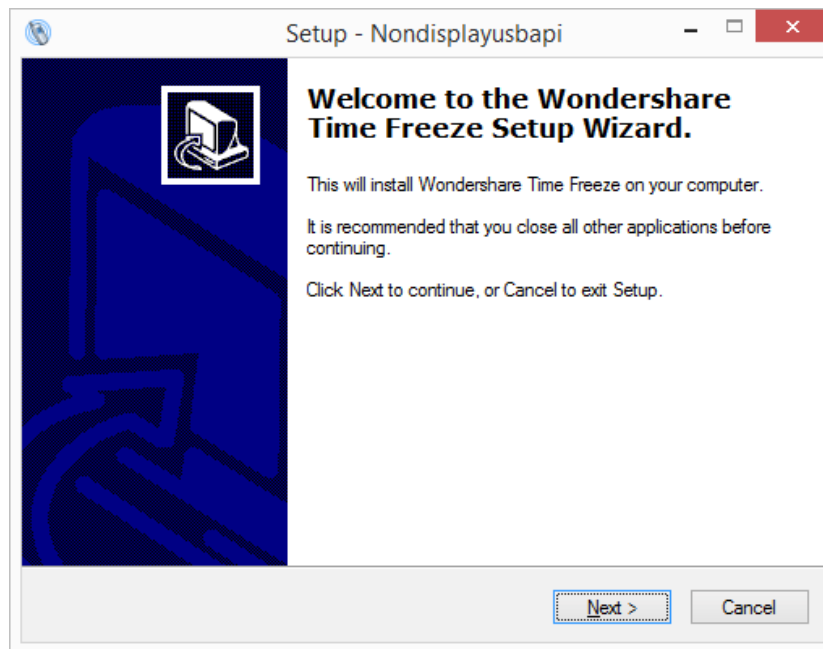

Figure 3-8: Handset Driver Installation
Step 3: Follow the step-by-step instruction of the installation wizard (**Figure 3-8**) to install the handset driver.